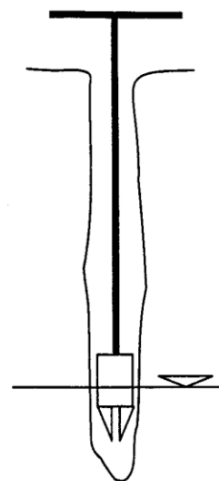

Figure 2. Work the seds with the auger to advance the hole.
- At the WT the hole will collapse and boring deeper will be limited. Use the auger to try to work (loosen) the seds at the WT and advance the hole as best you can (Fig. 2). This will facilitate driving in the well. Estimate DWT using the PVC rod or beeper.